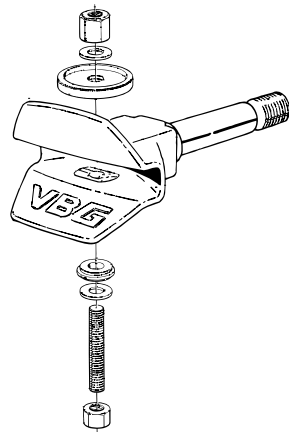

Figure 9
- When changing the Coupling Jaw Bushings, use the VBG Service Tools, Part No 39-004000. The bushings have to be pulled out upwards from the Coupling Jaw. Clean, check and lubricate the hole in the coupling jaw. Squeeze in the new bushings downwards. See figure 9.